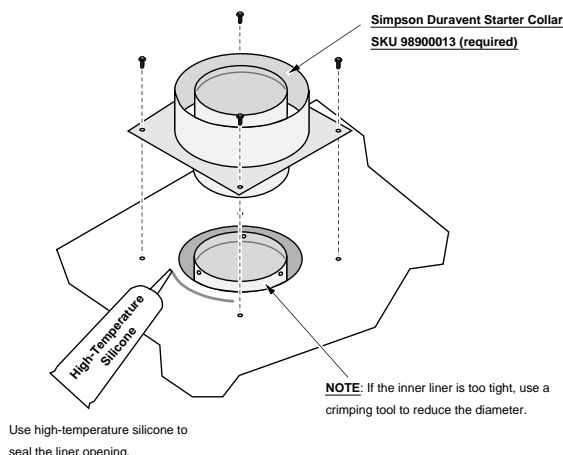
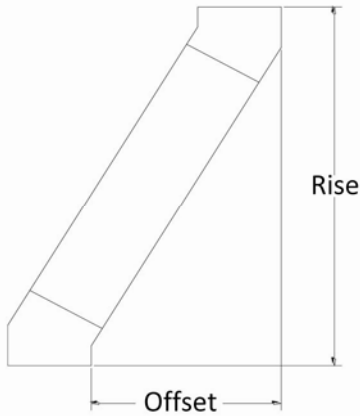

Figure 19
Figure 20
- Simpson Duravent chimney requires a starter collar. Attach the starter collar to the top of the fireplace with four sheet-metal screws (see Figure 19). If the inner pipe is too tight, use a crimping tool to adjust pipe diameter (see Figure 20). Seal the outer sections of pipe with high-temperature silicone.